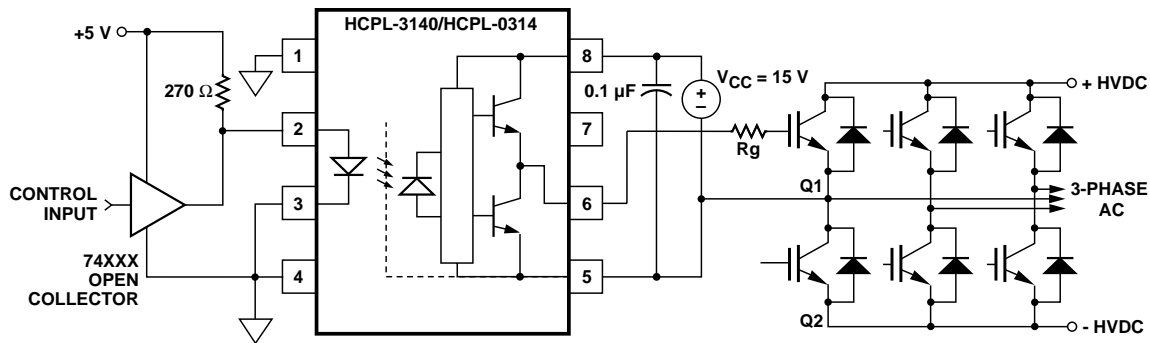
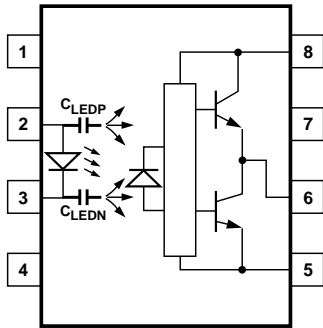
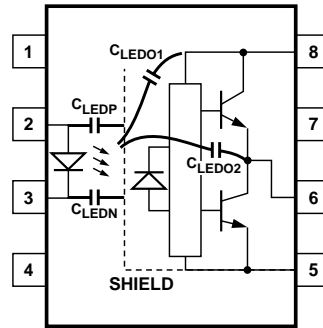

Figure 19. Recommended LED drive and application circuit for HCPL-3140/HCPL-0314.
Figure 21. Optocoupler input to output capacitance model for unshielded optocouplers.
Figure 22. Optocoupler input to output capacitance model for shielded optocouplers.
HCPL-3140/HCPL-0314 on a small PC board directly above the IGBT) can eliminate the need for negative IGBT gate drive in many applications as shown in Figure 19. Care should be taken with such a PC board design to avoid routing the IGBT collector or emitter traces close to the HCPL-3140/HCPL-0314 input as this can result in unwanted
Step 1: Calculate R_g minimum from the I_{OL} peak specification. The IGBT and R_g in Figure 19 can be analyzed as a simple RC circuit with a voltage supplied by the HCPL-3140/HCPL-0314.
where $K_{ICC} \cdot Q_g \cdot f$ is the increase in I_{CC} due to switching and K_{ICC} is a constant of 0.001 mA/(nC*kHz). For the circuit in Figure 19 with I_F (worst case) = 10 mA, R_g = 32 Ω, Max Duty Cycle = 80%, Q_g = 100 nC, f = 20 kHz and T_{AMAX} = 85°C:
Without a detector shield, the dominant cause of optocoupler CMR failure is capacitive coupling from the input side of the optocoupler, through the package, to the detector IC as shown in Figure 21. The HCPL-3140/HCPL-0314 improves CMR performance by using a detector IC with an optically transparent Faraday shield, which diverts the capacitively coupled current away from the sensitive IC circuitry. However, this shield does not eliminate the capacitive coupling between the LED and opto-coupler pins 5-8 as shown in Figure 22. This capacitive coupling causes perturbations in the LED current during common mode transients and becomes the major source of CMR failures for a shielded optocoupler. The main design objective of a high CMR LED drive circuit becomes keeping the LED in the proper state (on or off) during common mode transients. For example, the recommended application circuit (Figure 19), can achieve 10 kV/μs CMR while minimizing component complexity.
supplied by the LED, and it is not recommended for applications requiring ultra high CMR₁ performance. The alternative drive circuit which like the recommended application circuit (Figure 19), does achieve ultra high CMR performance by shunting the LED in the off state.